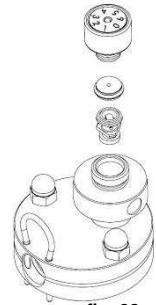

fig. 28
- Put-in the non return valve and the air nozzle disc. Put on the air regulation screw. (fig. 28)